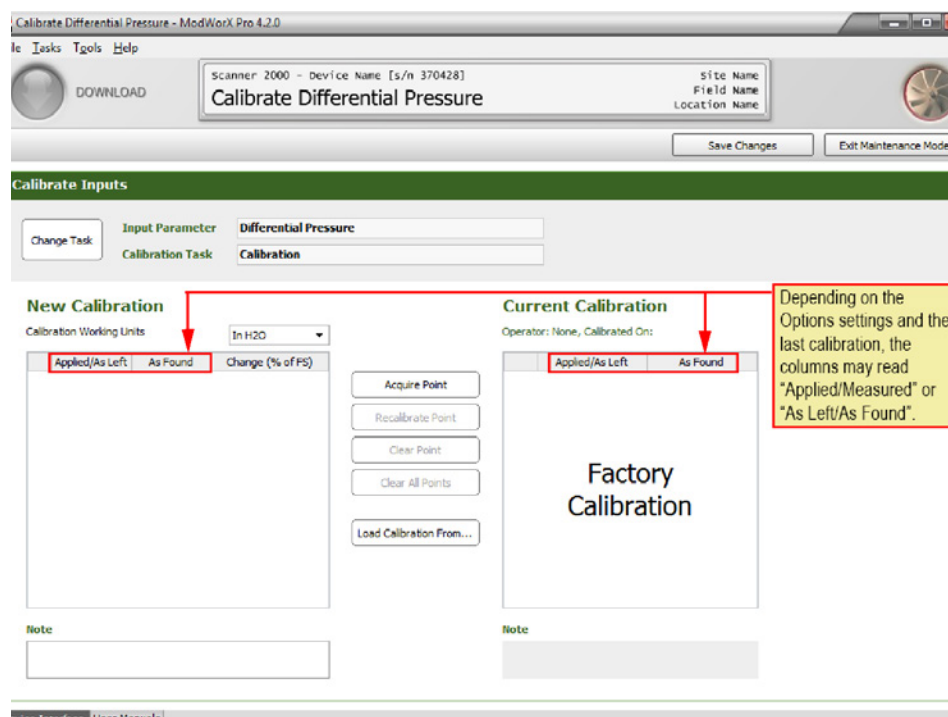

Figure 8.3
3. The Calibrate Differential Pressure screen will appear, and the input parameter and calibration task selections you made will appear at the top of the screen (Figure 8.3, page 109).
- In Figure 8.3, the “Calibration Working Units” located above the new calibration table shows the unit of measure to which the differential pressure will be calibrated. To use a different unit, select the desired unit from the Calibration Working Units dropdown menu.